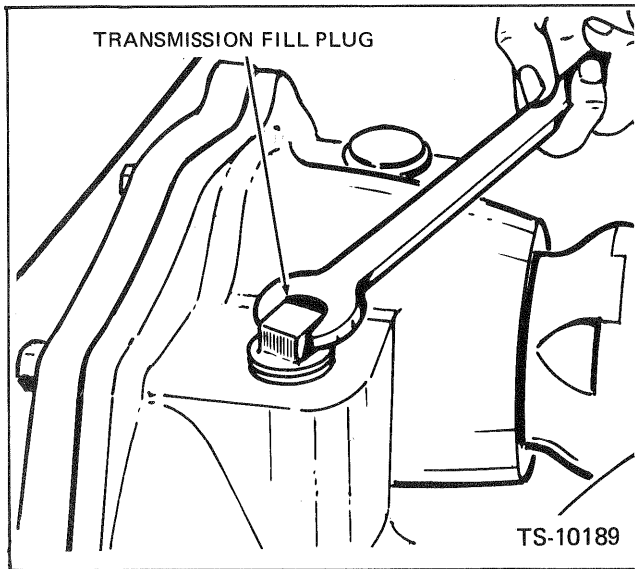

Fig. 9-4 Transmission Fill Plug
10. Refill the transmission (Fig. 9-4) restart and run the engine for 5 minutes at approximately 1,500 rpm, checking the filter assemblies, drain plug, hoses and connections for leaks. Recheck the transmission fluid level when it is at operating temperature (180° F. to 200° F.) Add fluid as necessary.